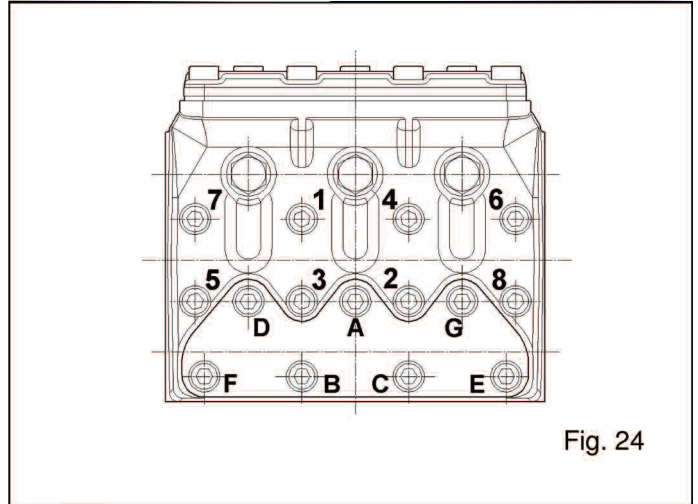

Fig. 24
D) To Reassemble the valves proceed the other way around, and tighten the cover screws with a torque wrench. The table on page 17 contains the screw tightening torque values and Fig. 24 indicated the sequence.
*** The fluid end screws must be tightened in 2 stages following the sequence indicated in fig 24: